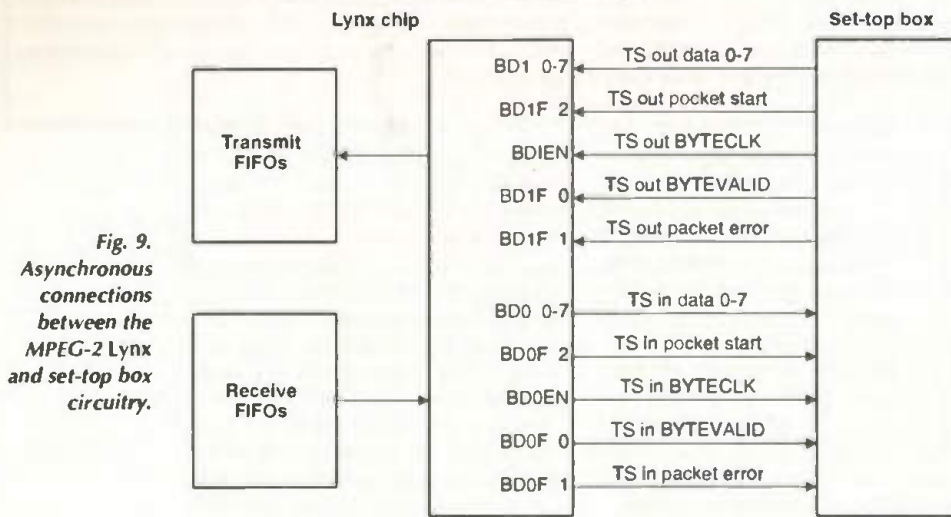

Fig. 9. Asynchronous connections between the MPEG-2 Lynx and set-top box circuitry.
Figure 9 gives an indication of the way in which the MPEG2 Lynx time-stamped (TS) asynchronous control data is passed between this chip and the set top box STB, together with the error control checks and timing signals.